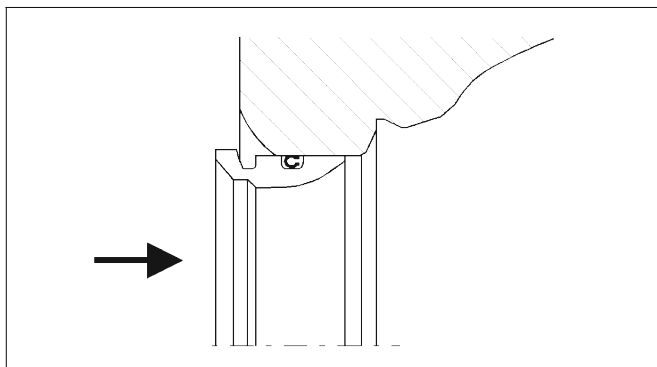

Fig. 16 Precompression of the lip seal
- ❑ Place the back seal (6) onto the seat (4).
- ❑ Lubricate the flow port, seat (4) and back seal (6) and the lock spring (5) with a volatile lubricant, e.g. Hyprez. Make sure that the lubricants are compatible with the medium.
- ❑ **Only for a lip seal:** Push the seal carefully into the flow port for about 15 minutes, Fig. 16. The following work phases must be completed before the precompression is lost.